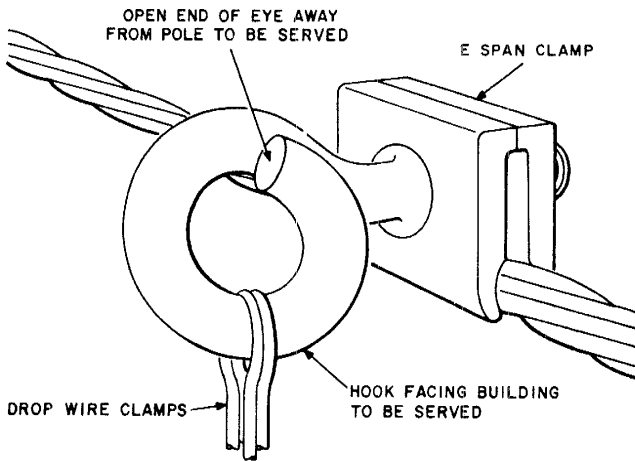

Fig. 2—E Span Clamp on Strand
2.01 Span clamps are placed on suspension strand as follows (Fig. 2):